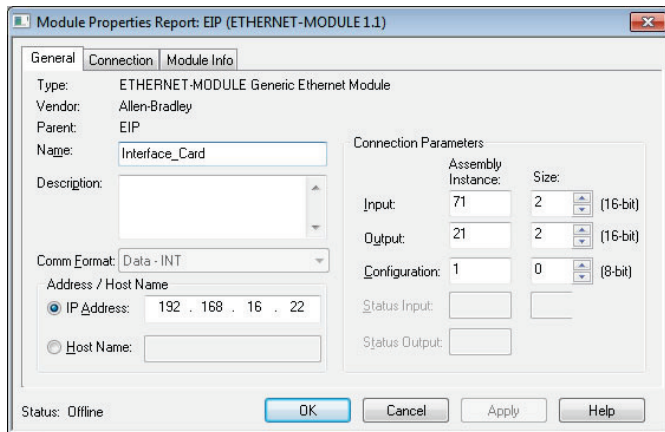

Figure 51: AC/DC Drive Profile Generic Ethernet Module Configuration
- 1) Complete all the steps in section 9.2.12. Please note that the Assembly Input Instance must be changed to 71 and the Assembly Output Instance must be changed to 21. Refer to Figure 51.